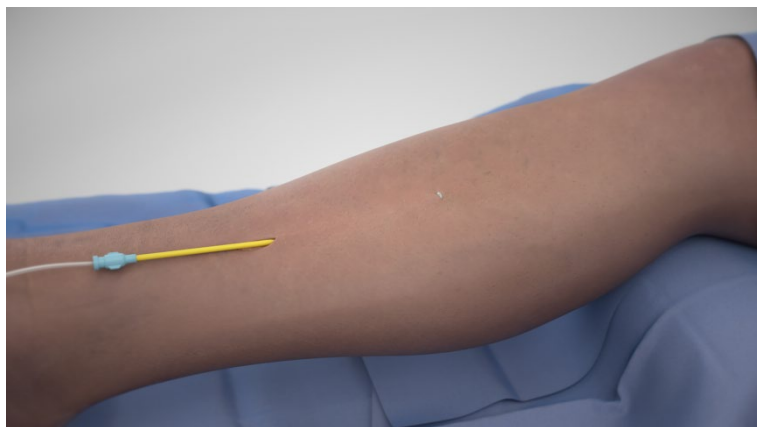

Figure 4
5. Ensure there is no slack at the first incision entry site before withdrawing the introducer from the subcutaneous receiver pocket. (Figure 4)